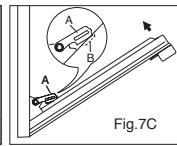

Fig.7C
4) shut the oven door slowly until it reaches hooks "A", making sure these are locked into slots "B" of the oven door, as shown in fig. 7C. (Only where present, remove the inside door glass of the oven, see fig. 7A).